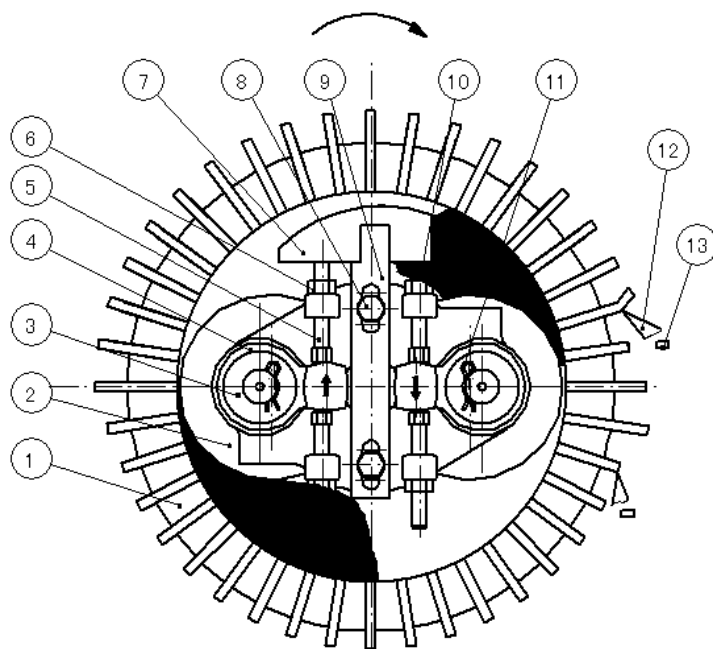

Figure 15 PELLETING CHAMBER
(1) Disassemble the roller (See Figure 15).